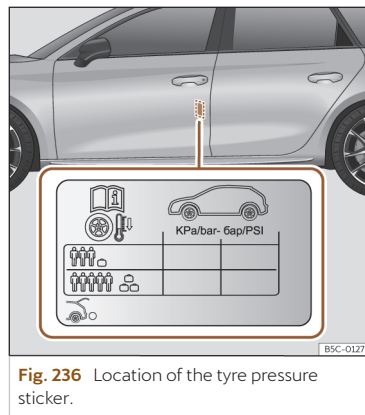

Fig. 236 Location of the tyre pressure sticker.
- Adjust tyre pressure to the load being carried by the vehicle >>> **Fig. 236**.
The values of the tyre pressure are shown on the sticker label located on the rear frame of the front left door >>> **Fig. 236.**
The tyre pressure must be adjusted according to the load the vehicle is carrying. If the vehicle is going to be fully loaded, increase the tyre pressure to the maximum load value shown on the sticker label >>> **Fig. 236.**
In the case of a minimised temporary spare wheel (125/70 R16 or 125/70 R18) inflate to a pressure of 4.2 bar as indicated on the tyre pressure label >>> **Fig. 236.**
- The driver is responsible for ensuring that all of the vehicle tyres are correctly inflated to the right pressure. The recommended tyre pressure is indicated on the label >>> **Fig. 236.**
- Tyre pressure should be that indicated on the label when the tyres are cold at all times >>> **Fig. 236.**